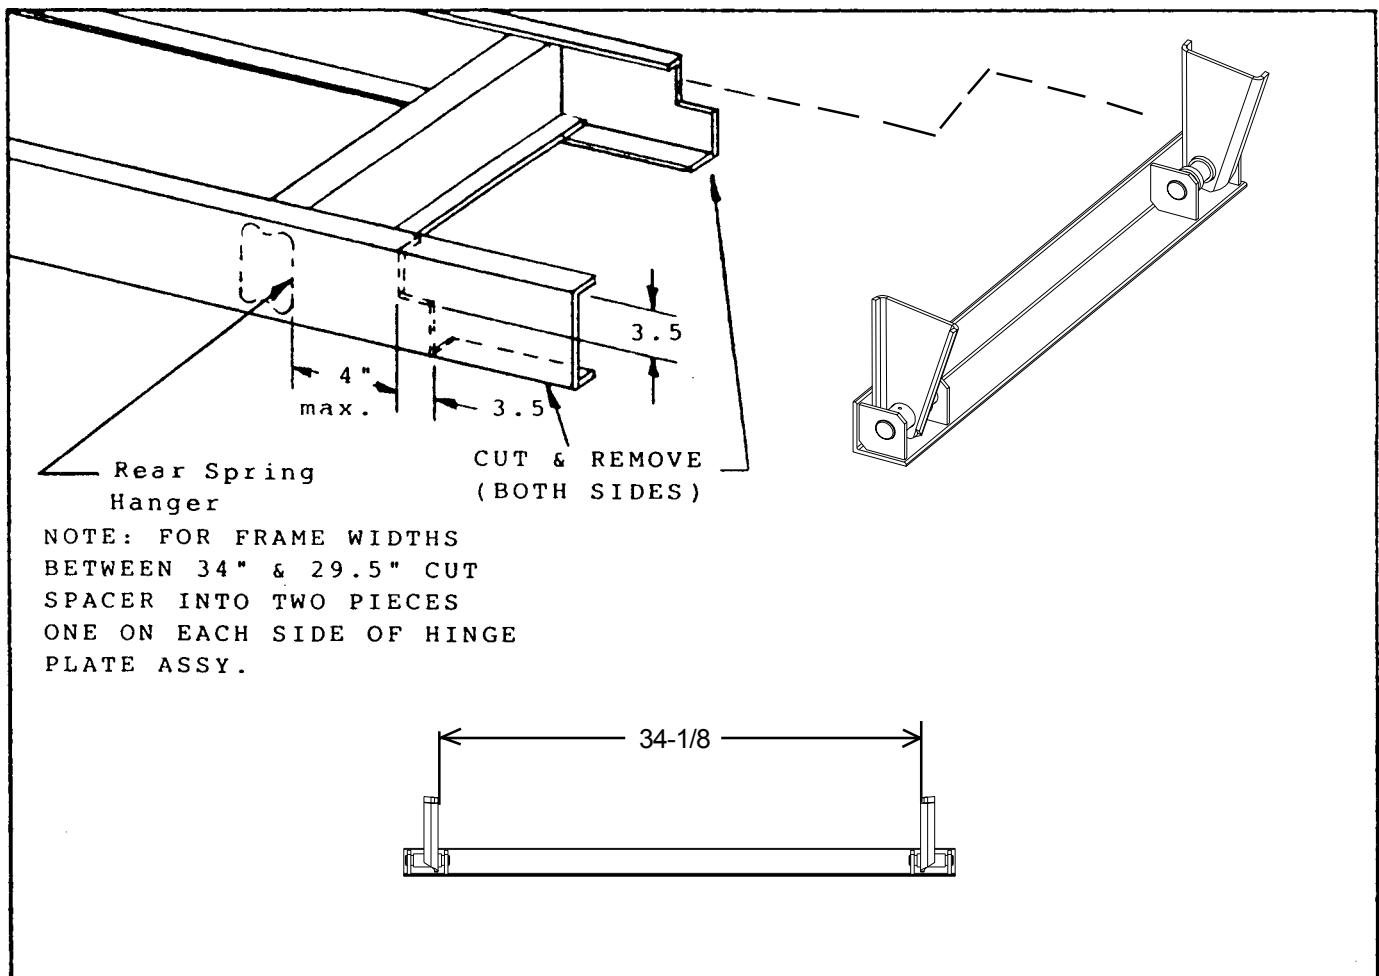

FIGURE 2 - FRAME MODIFICATION AND REAR HINGE ATTACHMENT
- b. See Figure 2, cut a 90° cut-out in the truck frame (both sides).